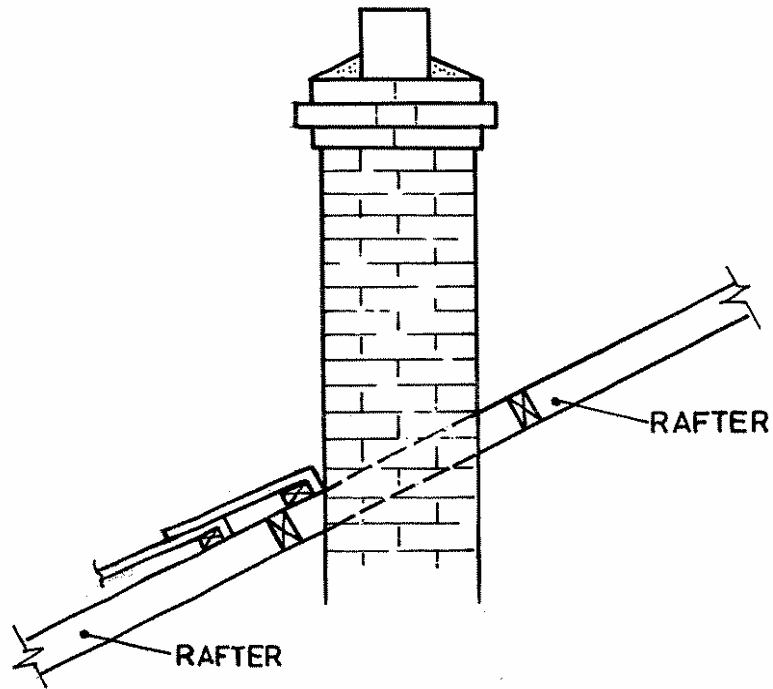

Figure 4
b) Insert the positions of the front apron, and the horizontal DPC that it is linked with, to the chimney stack shown in figure 4.